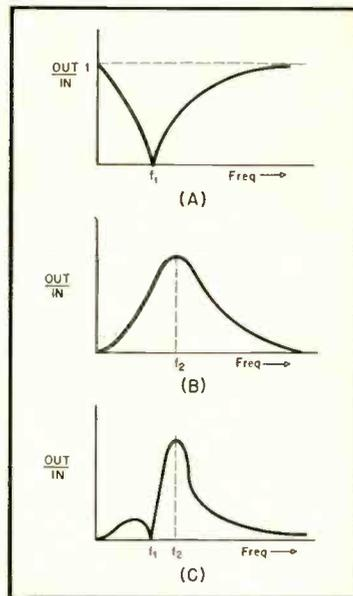
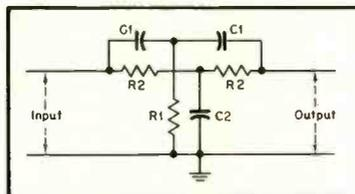

Fig. 2
Fig. 1
RESISTANCE-CAPACITANCE filters are generally considered inferior to LC filters in that their Q is low and it is usually impossible to attain sharp cutoffs or steep resonance curves. One of the better circuits for rejection of a single frequency is the twin-T, diagrammed in Fig. 1, often used in measurement work at radio frequencies and equally useful at a.f. It does completely reject one frequency but has fairly mild slopes, as the curve (A) of Fig. 2 shows.
The circuit of Fig. 3 is a negative feedback amplifier using the twin-T, often employed to pass a single frequency, since the twin-T in the feedback loop causes degeneration at all frequencies but that (f_2) at which transmission through the twin-T is nil. The curve of response in this circuit is given at (B) in Fig. 2. Obviously, frequencies adjacent to f_2 are not greatly attenuated. It is difficult to make a more selective circuit at audio frequencies—especially in the lower range—even with LC filters, because of core losses and low Q .
Charles E. Dolberg's Patent No. 2,495,511 shows an ingenious but quite simple method of combining the circuits of Fig. 1 and Fig. 3 to obtain a very sharply selective audio filter, so much so that in bridge measurements at 55 cps, for instance, it is possible effectively to exclude 60 cps from
The result appears at (C) in Fig. 2 as the resultant of the curves (A) and (B). The twin-T between V_1 and V_2 gives the rejection (A) so that the lower side of the resultant curve is very steep, going to infinite attenuation at f_1 .